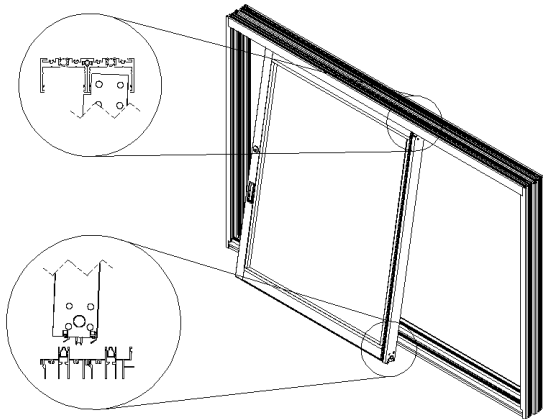

Figure 15:
1. From the outside, with the weather-strip facing outside, insert the “X” panel into the furthest channel of the head. Push up and swing the bottom of the panel in (Figure 15) and down onto the sill. Ensure the rollers are correctly seated on the stainless steel track.